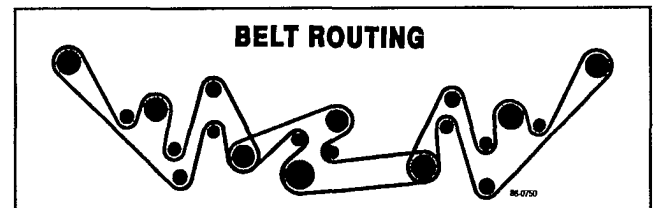

Figure 68
10. Route new belt around appropriate pulleys as shown in figure 68.